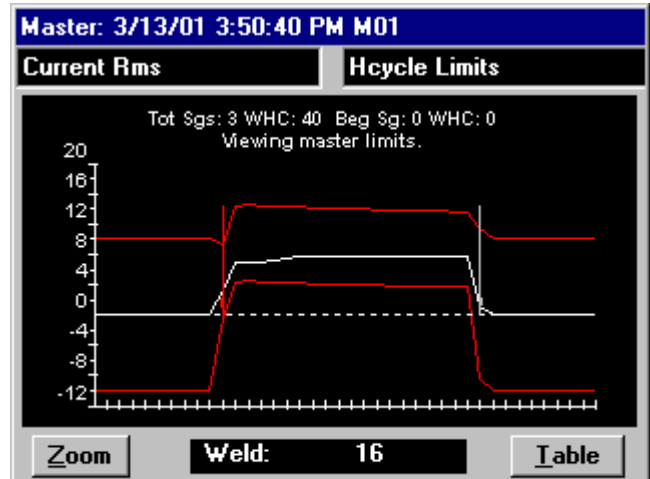

Figure 5-20 Halfcycle Summary for ACCEPTED weld
6. ESCAPE to the main screen and make a weld. If the weld passes, go to the **Halfcycle Summary** screen. Your **Halfcycle Summary** screen should look similar to figure 5-20. Notice that the **Current Rms** line is within the set tolerances. Now we'll lower the heat for the next weld so you can see what happens.